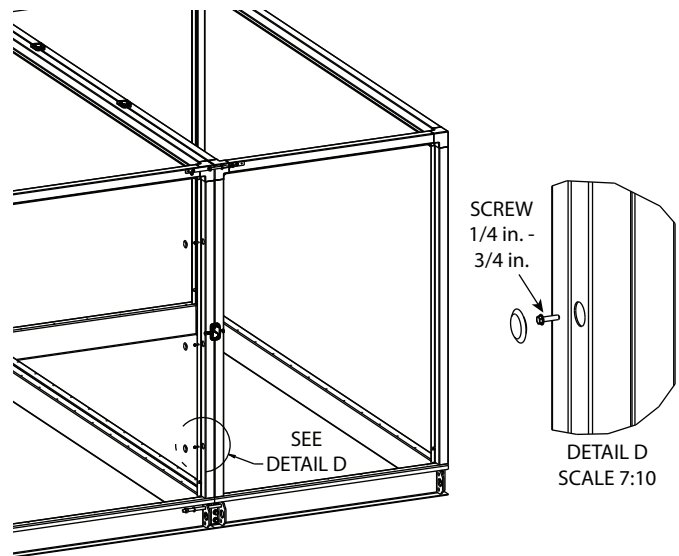

Fig. 31 — Attaching CCH at Section Split — Location of Screw Holes
- c. Use tool clearance holes to install 1/4 in. screws into the downstream frame for the permanent section joint (only necessary on the CCH side). Detail D in Fig. 31 shows the location of the holes; the number of holes will vary by unit.